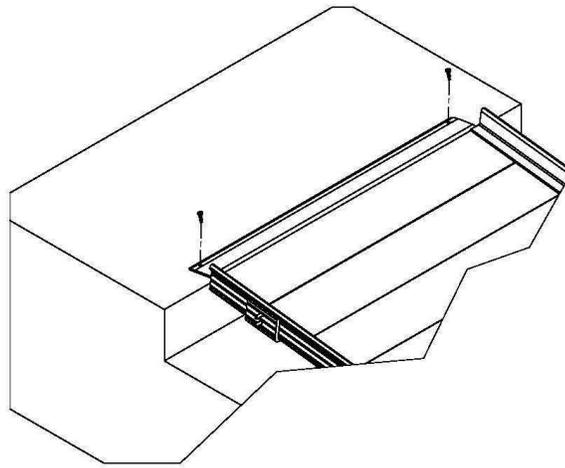

FIG. 3.18
3.6.1.1. Secure upper transition by installing the 1/4" self-drilling stainless steel screw through each hole (FIG. 3.18).